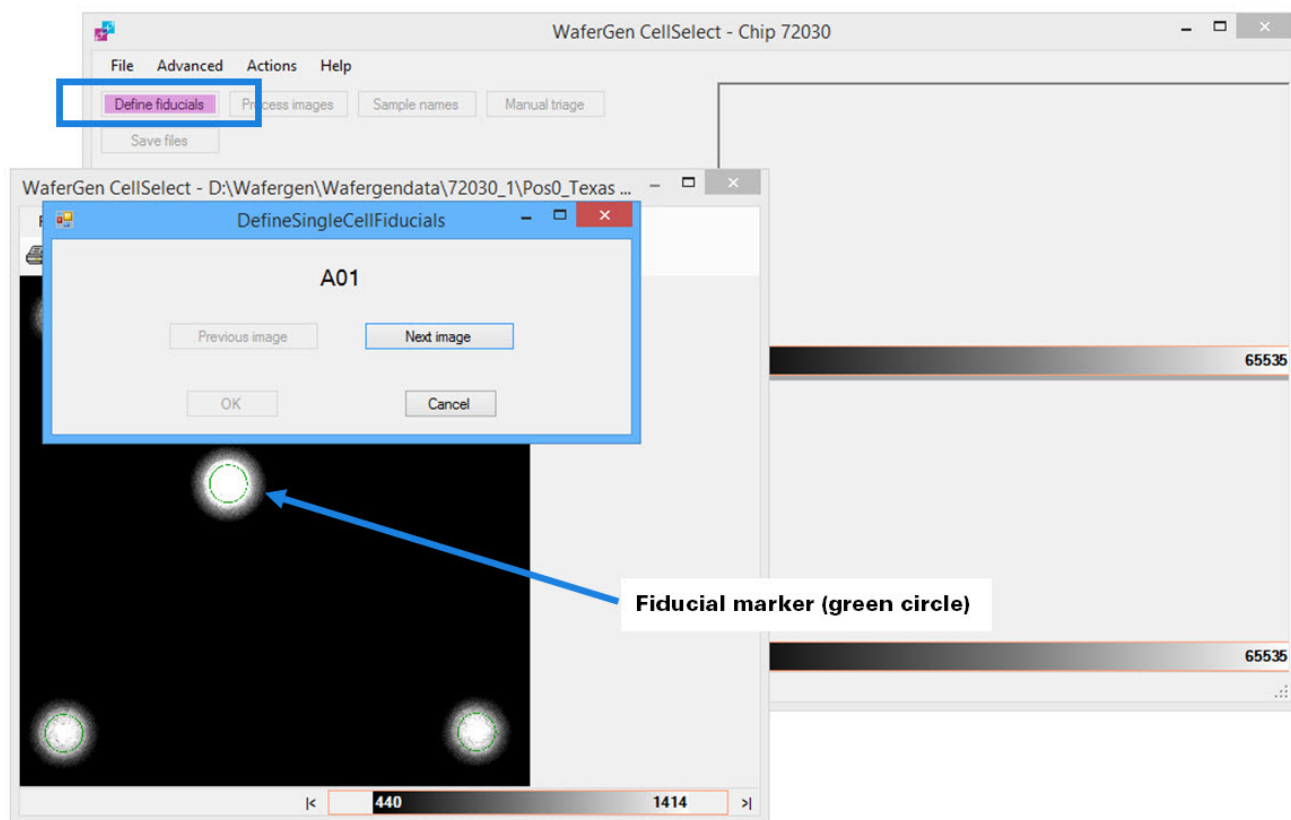

Figure 25. Defining fiducials.
4. The software will automatically detect fiducials and prompts you with four consecutive fiducial images. The [Define fiducials] box in the top-left portion in the *Main* window will be highlighted as this process occurs (see Figure 25, below). The first fiducial image (Pos0) shows five green circles, while the other three fiducial images (Pos11, Pos132, Pos143) show four green circles. The green circles highlight the centers of the nanowells.